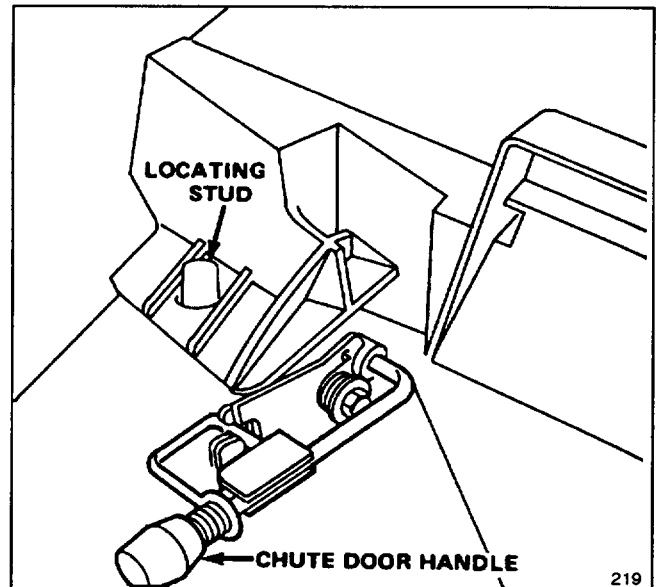

Figure 5
- Assure chute door handle is fully forward and locked in place (Fig. 5).
- Slide guide hole in bag door onto locking stud on mower housing (Fig. 5); then set rear of bag frame onto support rod.